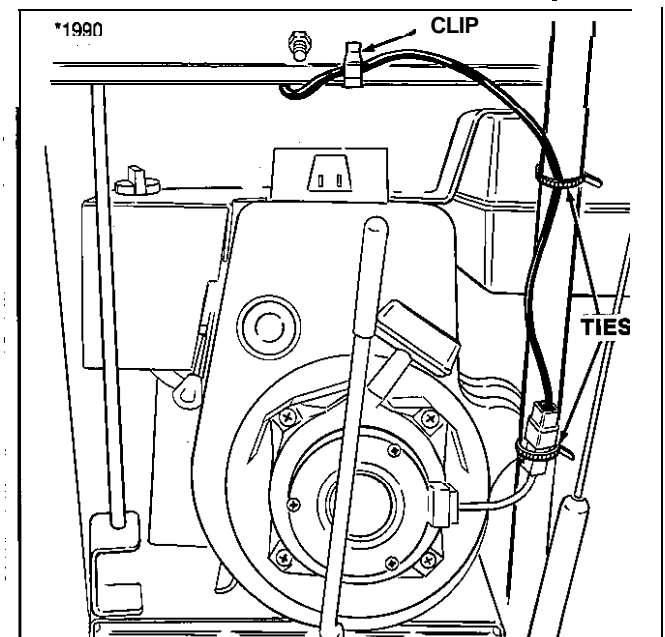

Figure 3.
4. Install clip and plastic ties as shown in figure 3. This will prevent wire harness from interfering with recoil starter.